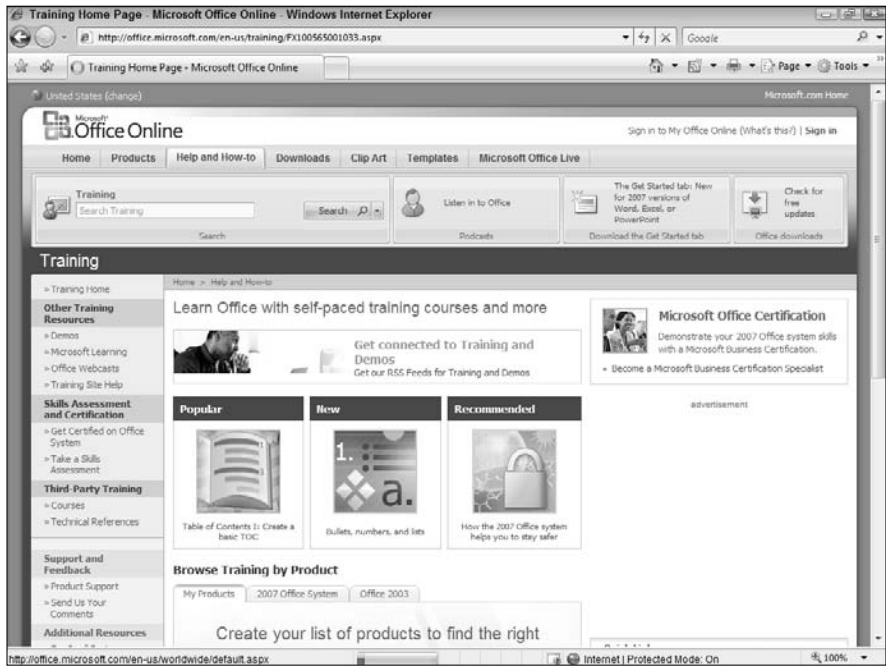

Figure 5-8:
- Running Project training courses (see Figure 5-8) and demos